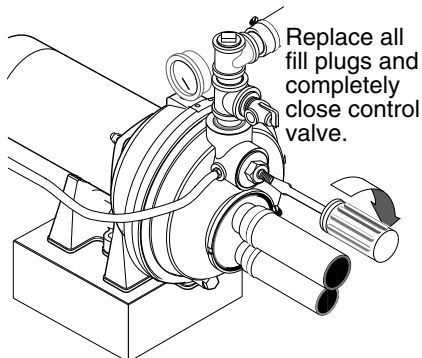

Figure 14 – Prime Pump
2. Replace all fill plugs and close the control valve completely (See Figure 14).